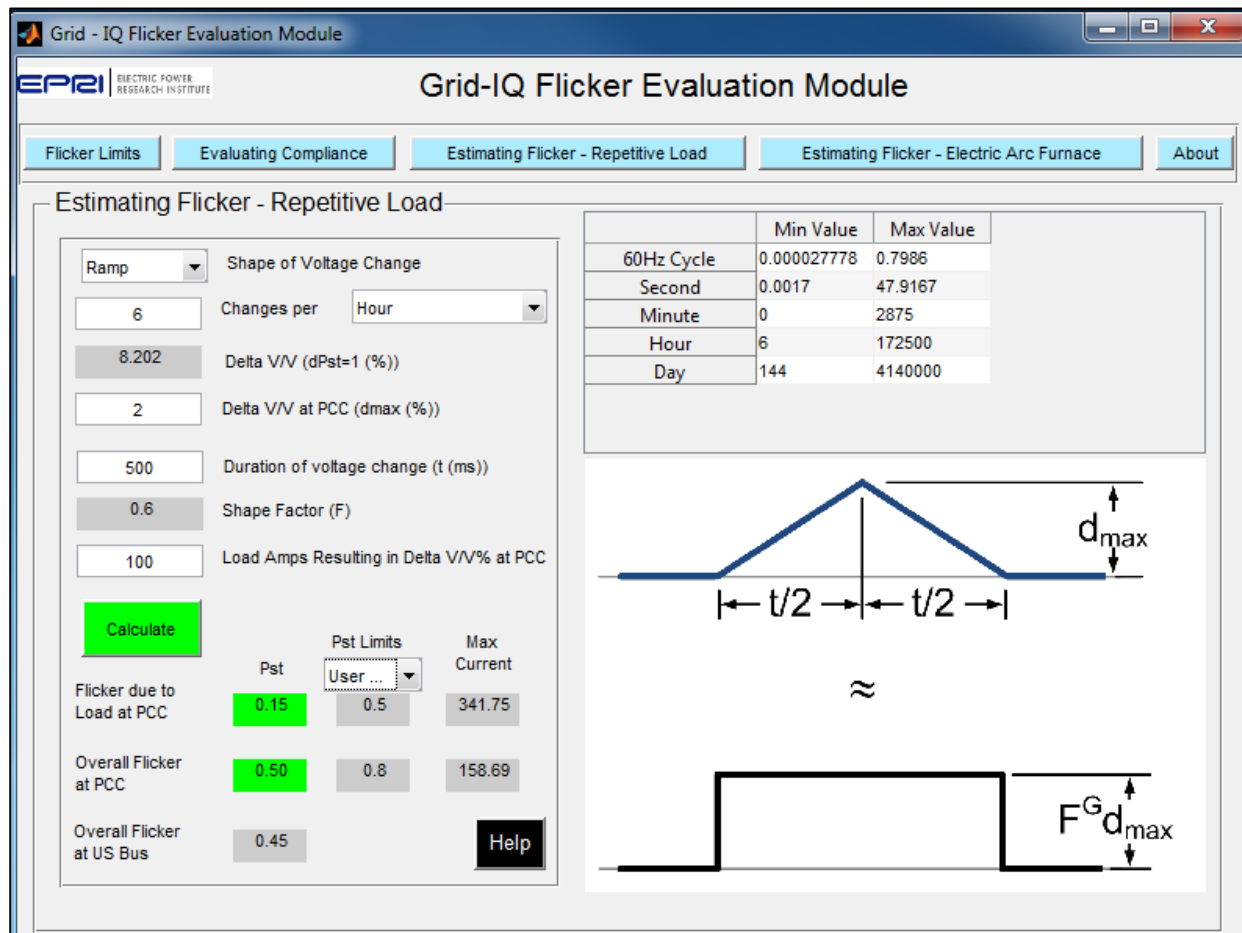

Figure 1
This section describes the various user inputs and parameters that are related to computing the flicker contribution from loads that are repetitive in nature with known duty cycle. The screenshot of the corresponding tab of the interface is shown in Figure 1. The limits corresponding to those calculated in the Flicker Limits tab are re-shown here for comparison. When the flicker of the repetitive load exceeds that of the flicker limits, the value is highlighted red. When below limits, the value is highlighted green.
- Delta V/V (dPst=1(%)) (from Pst=1 curve): Rectangular shape voltage change that would result in Pst of 1 corresponding to the changes per minute specified above. This value can be manually read from the plot in Figure 1. However, this module computes this value and populates this field automatically. This selection is disabled for Aperiodic shape of voltage change.